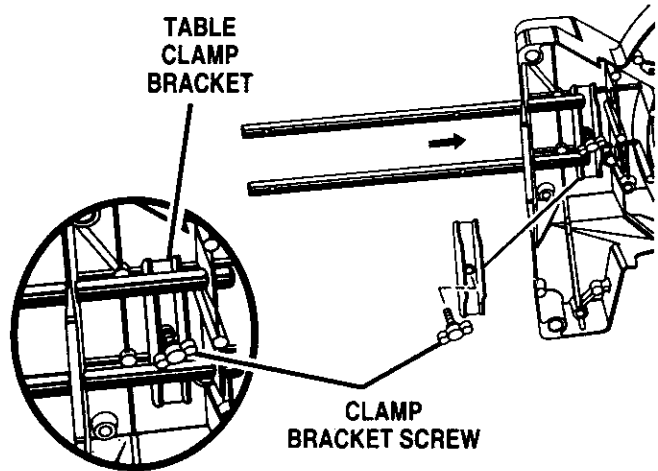

Fig. 42
- Insert support rods into the two holes in the side of the miter saw base. See Figure 42.
- Position table clamp bracket under miter saw base between support rods and bottom of miter saw as shown in figure 42.
- Insert the grooved end of the clamp extension rod into the back, top hole of the clamp support. This will allow the clamp to press the workpiece against the saw table. See Figures 42 and 45.